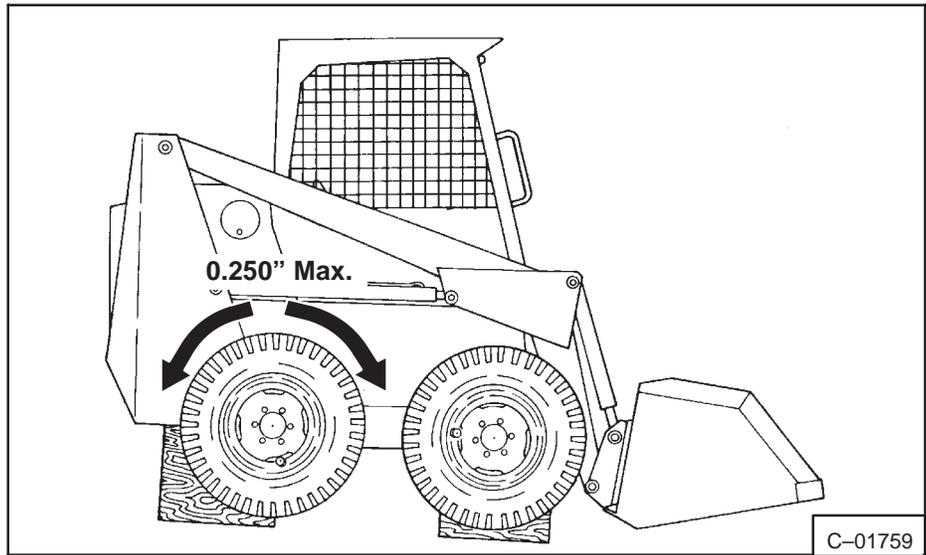

Fig. 1-34 Checking Drive Chain Freeplay
2. Take hold of one of the wheels and *turn* it back and forth (Fig. 1-34). If there is more than 0.250 inch of free play measured at the tire tread, the chain needs adjustment. Check the free play at each side of the loader. See Section 4 for drive chain adjustment.